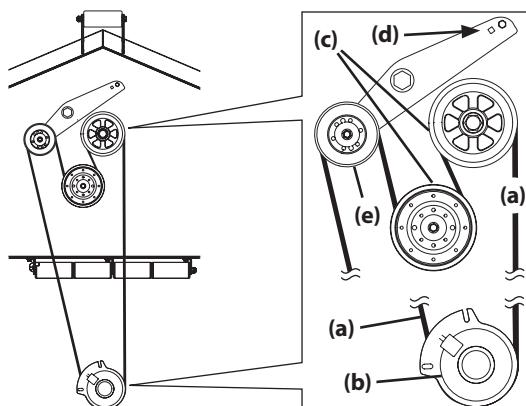

Figure 35
2. Route the new PTO belt (a) around the PTO clutch (b) and PTO pulleys (c) as shown in Figure 35.